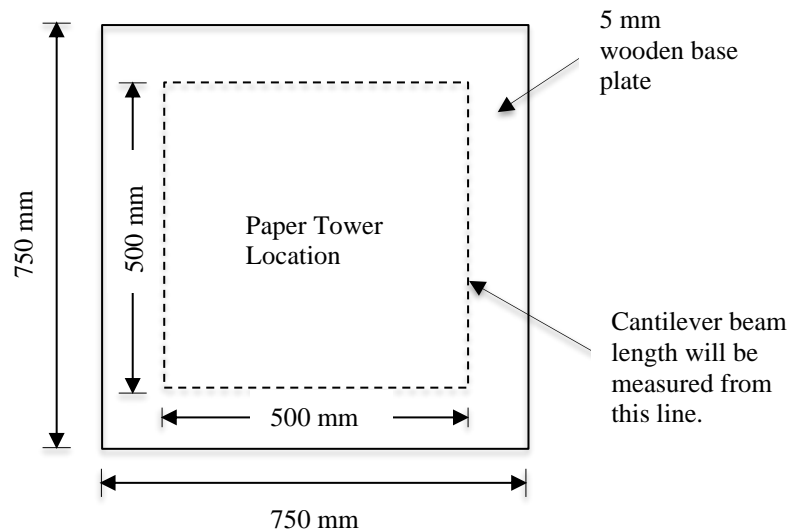

Figure 1: The base limit of paper tower
4. The total height of tower should be between 1.0 m to 1.5 m. As illustrated in **Figure 1**, the length and width of the base shall not exceed 50 cm (A 50 cm x 50 cm square will be shown on the baseboard). The length of the cantilever beam is between 10 cm and 50 cm (which is measured from the edge of the base to the loading point). Towers that do not meet these size requirements will be disqualified.